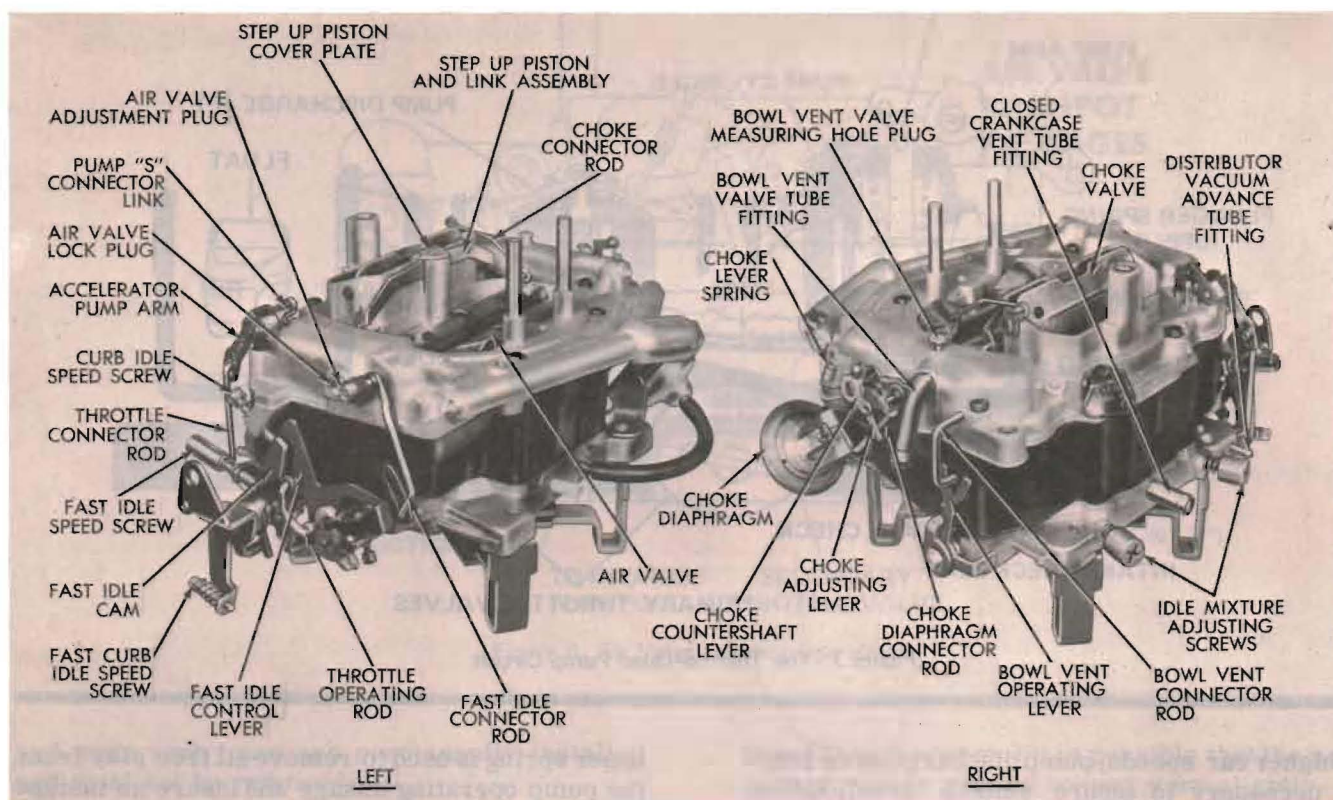

Figure 8. Carburetor on Repair Stand
1. Disassembling Carburetor (See figure 8.)